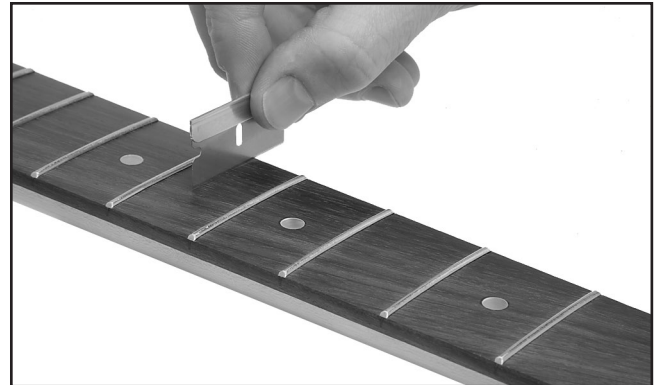

Figure 6. Scraping the fretboard.
6. Before wet sanding, remove the masking tape from the fretboard and carefully scrape any excess finish off the fretboard with a razor blade or chisel, as shown in **Figure 6.**